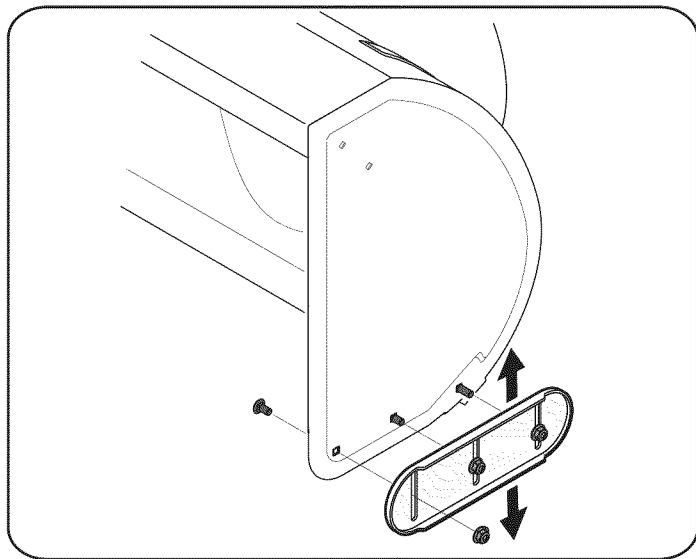

Figure 10
1. Loosen the six hex nuts (three on each side) and carriage bolts. Move skid shoes to desired position. See Fig. 10.